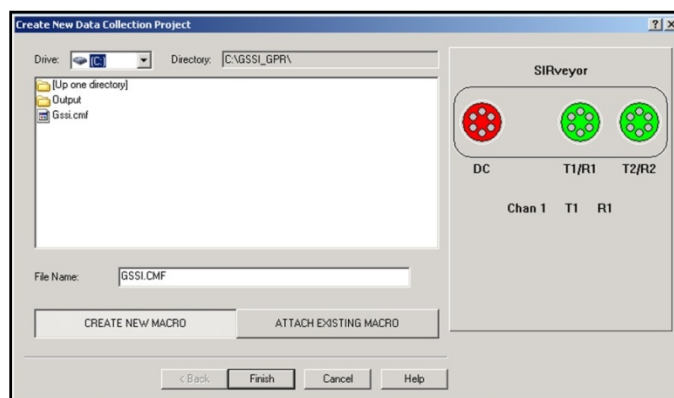

Figure 37: Attach a Macro or Create a New One.
- 9** Once you have decided on a scan density, click Next to open the Macro window (Figure 37).